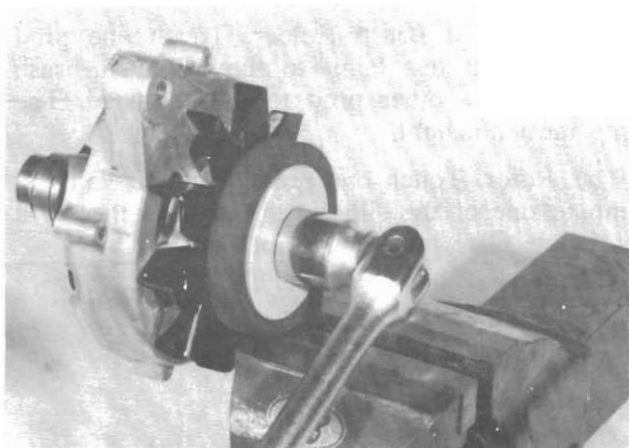

Fig. 14 - Removing the Pulley Retaining Nut
(5) If the rectifiers must be replaced support the heat sink or the end-head and remove the retaining screws. Both positive and negative rectifiers are removed in the same manner. They are to be replaced as an assembly, i.e., all three negative diodes and/or all three positive diodes.
(6) To separate the drive end-head from the rotor assembly remove the pulley nut. If necessary use rope or wood to grip the pulley in a vice while removing the nut. Do not grip the rotor poles in the vice as they may be damaged (refer Fig. 14).
Alternatively, where the alternator is not dis-assembled, the assembly may be "twisted" while the pulley is secured by the belt (Fig. 14) to apply an interference force to hold the rotor, while removing the nut.